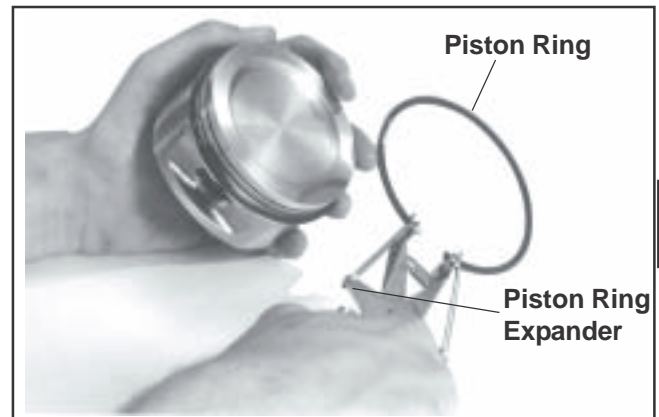

Figure 9-52. Removing Piston Rings.
1. Remove the top and center compression rings using a ring expander tool. See Figure 9-52.